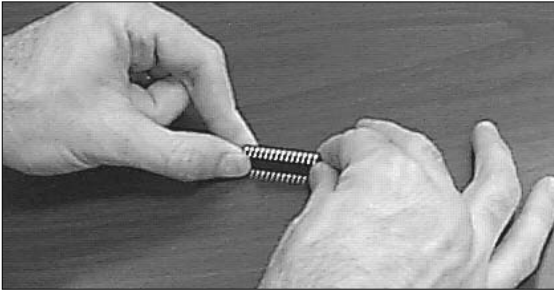

Figure 10. Rotate chip to bend pins inward.
16. It may be necessary to bend the pins on one or both edges of the chip inward very slightly to achieve this alignment. To do this, grasp the left and right-hand edges of the chip and orient the chip so that the pins are facing you (Figure 10). Place the pins on one side of the chip on a flat surface and apply mild pressure to bend the pins by angling the top edge of the chip toward you. Check the alignment of the pins with the socket as before. If necessary, bend the pins on the opposite edge of the chip.